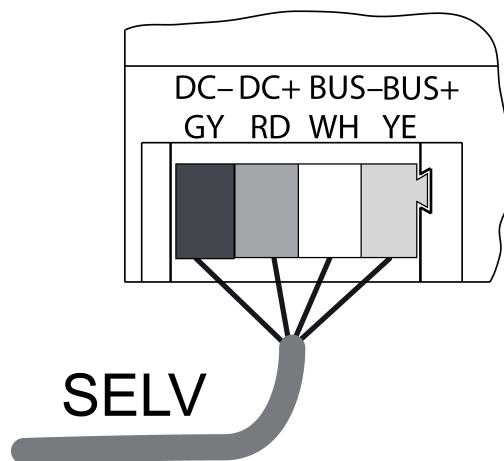

Figure 2: Connection diagram of bus line
- Connect the device with bus line (figure 2) to the RMD reception module and power supply (see instructions of RMD reception module and power supply).